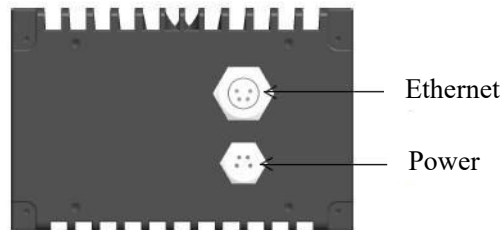

Figure 3 CE30-D aerial plug wiring instructions
- a. Use the two aerial plug cables attached in the package (including one power supply plug cable and one network port plug cable) to connect the LiDAR with the aerial plug cables as illustrated in Figure 3; connect the power interface to the adapter DC 12V ( $\geq 3A$ ), DC 5.5\*2.5mm; connect the aerial plug network port (RJ45) to the computer.